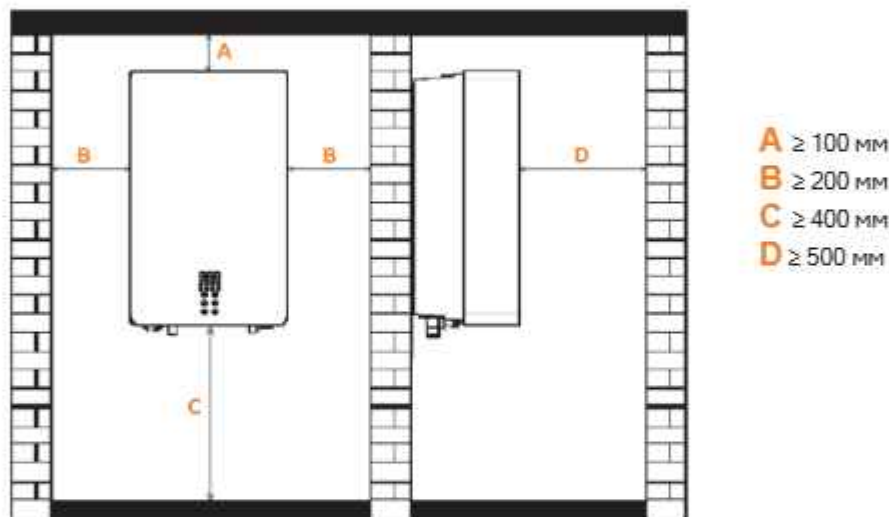

Figure 4 - Minimum free distances from the surfaces to the boiler body
- ▶ The minimum free distances from the surfaces to the boiler body are shown in Figure 4;